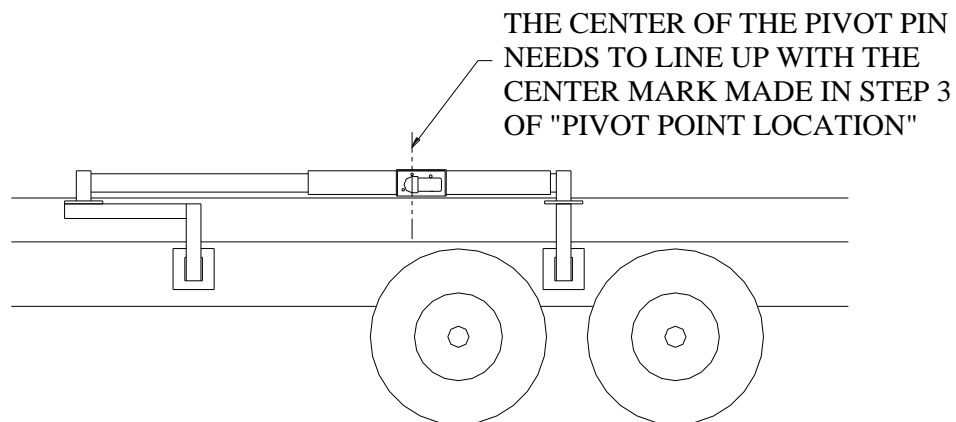

Figure 10
6) Set the driver's side pivot on the up-right legs and center the pads on the tubing as shown below in figure 10.
*Note: To ensure proper operation the cylinder should be slid all the way to the back (as shipped and shown in Fig.10)*